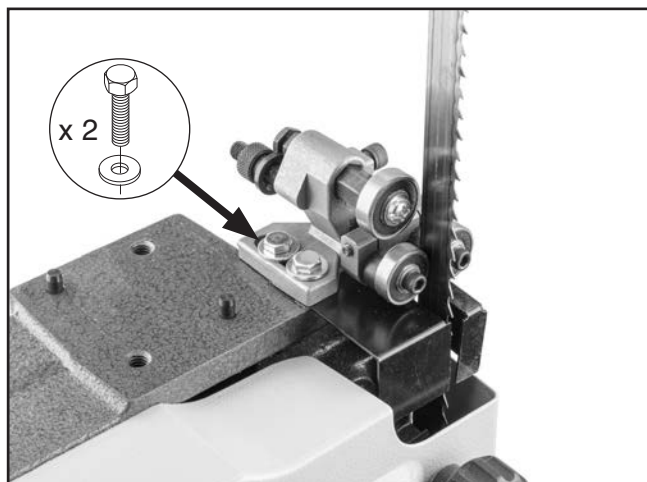

Figure 5. Existing lower blade guide assembly and fasteners.
8. Loosen (6) flange bolts that secure bandsaw table to trunnion brackets, then remove table from saw.
9. Loosen (2) hex bolts that secure lower blade guide assembly to bandsaw base, then remove assembly (see **Figure 5**).